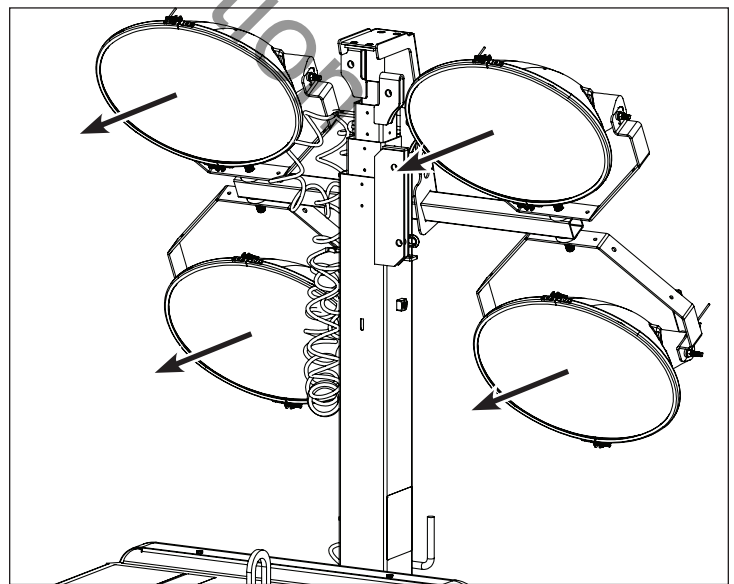

Figure 18
2. Manually adjust each fixture (up/down/left/right) to suit lighting needs. See Figure 18.
3. When lighting operations are complete, adjust the light fixtures to the transport position, with the fixtures facing straight back toward the rear of the light tower trailer. See Figure 18.